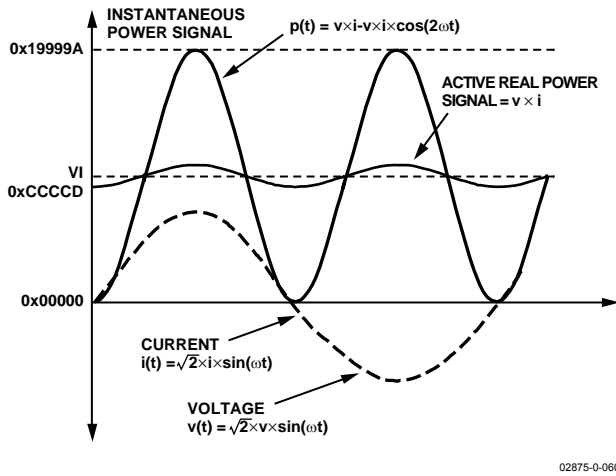

Figure 37. Active Power Calculation
Note that the active power is equal to the dc component of the instantaneous power signal  $p(t)$  in Equation 9, i.e.,  $VI$ . This is the relationship used to calculate active power in the ADE7169F16. The instantaneous power signal  $p(t)$  is generated by multiplying the current and voltage signals. The dc component of the instantaneous power signal is then extracted by LPF2 (low-pass filter) to obtain the active power information. This process is illustrated in Figure 37.
The ADE7169F16 also incorporates an active power offset register (WATTOS[15:0]). This is a signed twos complement 16-bit register that can be used to remove offsets in the active power calculation—see Figure 37. An offset could exist in the power calculation due to crosstalk between channels on the PCB or in the IC itself. The offset calibration allows the contents of the active power register to be maintained at 0 when no power is being consumed.
As mentioned in the last section, the discrete time sample period (T) for the accumulation register is 1.22 μs (5/CLKIN). With full-scale sinusoidal signals on the analog inputs and the WGAIN register set to 0x000, the average word value from each LPF2 is 0xCCCCD—see Figure 37. The maximum positive value that can be stored in the internal 49-bit register is 248 or 0xFFFF,FFFF,FFF before it overflows. The integration time under these conditions with WDIV = 0 is calculated as follows: